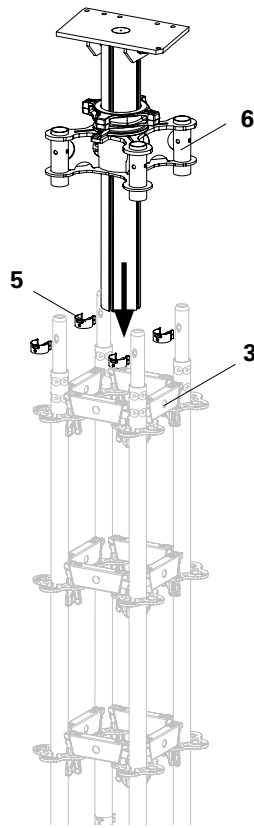

Fig. A1.05
1. Position Head Spindle (6) on the Spigots of the Standards UVR.
2. Tightly connect Standards UVR and Head Spindle with Locking Pins Ø 48/57 (5). (Fig. A1.05)